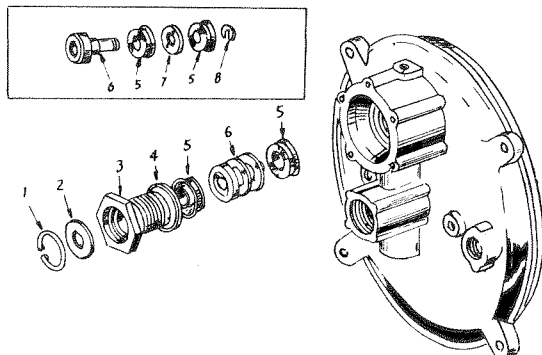

Fig. 6
2) Valve Fitting and Relay Valve Piston (Figs. 6 and 7)